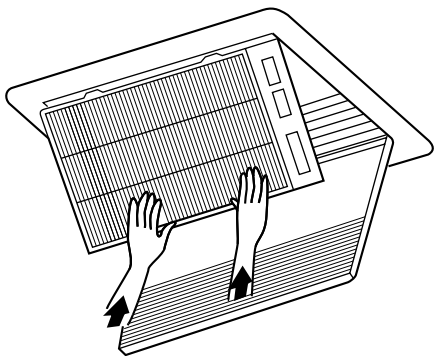

Fig. 4
**Refer to figure 4 on page [1]**
(Refer to Fig.4)